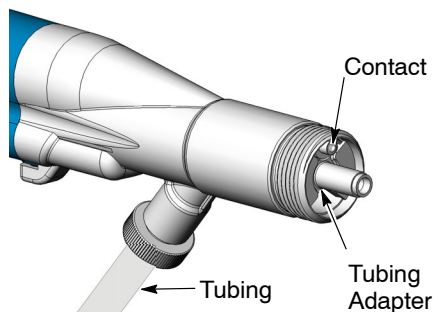

Figure 8 Tubing Adapter Installation
5. See Figure 8. Gently pull the flexible tubing back through the lock knob until the tubing adapter is pulled up against the gun adapter flange.